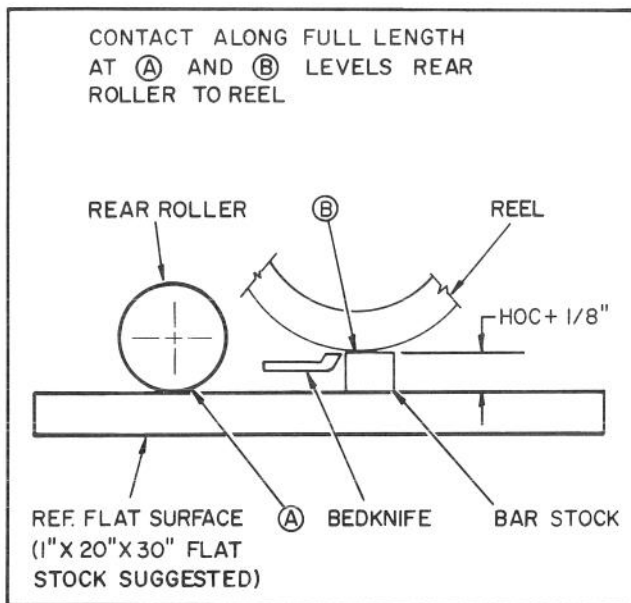

Figure 17
- C. Insert a piece of bar stock 25" - 28" (70 cm) long (Fig. 17), and approximately 1/8" (3 mm) thicker than the desired height-of-cut, under the reel and up against the bedknife cutting edge (Fig. 17). The reel (not bedknife) must contact the bar stock along its full length.
- F. Insert piece of bar stock (Fig. 17) 25"-28" (70 cm) long with thickness equal to desired height-of-cut, under entire length of the reel, next to bedknife.